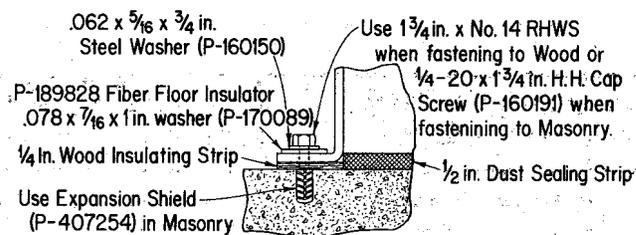

Fig. 2 — Method of Fastening 556A PBX
3.04 When the PBX is to be located on a metal surface such as the inserts used for terrazzo floors, insulate the framework by means of insulating strips as shown in Fig. 2.
3.06 Fasten the PBX to the floor as shown in Fig. 2. The PBX should stand approximately level.